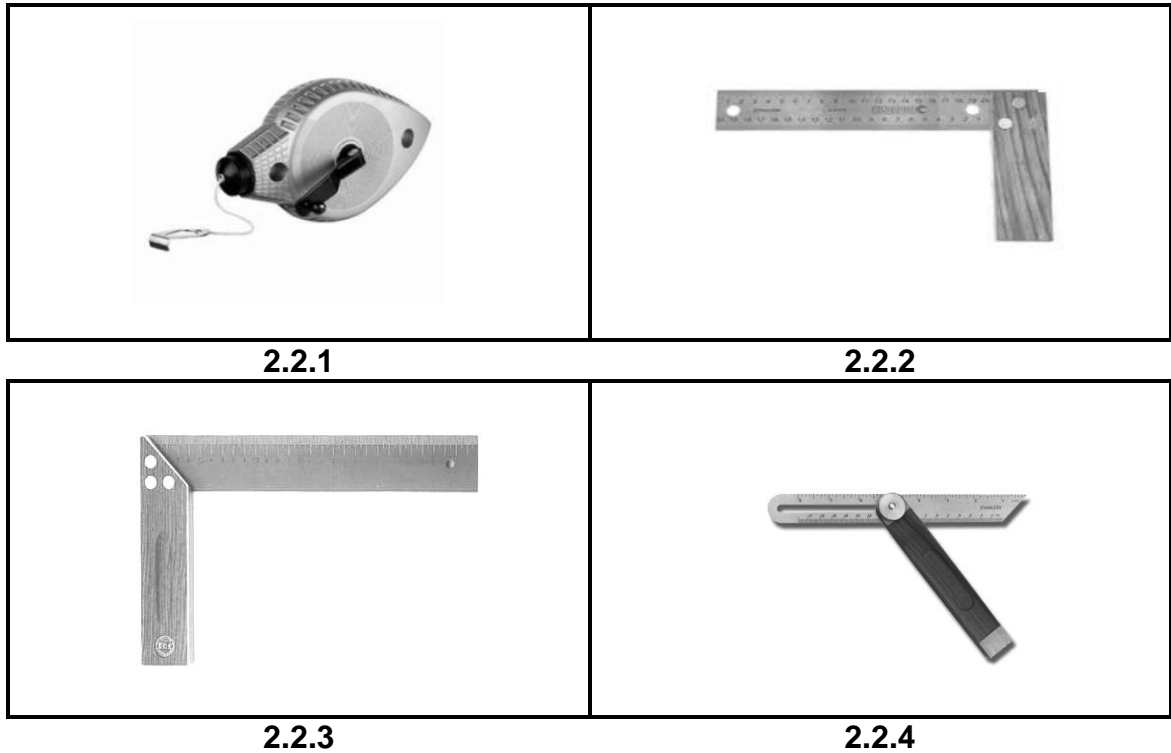

FIGURE 2.2
2.2 FIGURE 2.2 below shows hand tools that are used on a site and in a workshop. Write down the name and ONE use of each of the tools next to the question number (2.2.1–2.2.4) in the ANSWER BOOK.